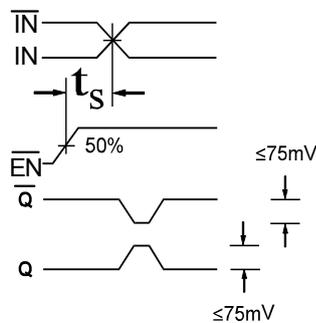

Figure 1. Setup Time
- The setup time is the minimum time that $\overline{\text{EN}}$ must be asserted prior to the next transition of $\text{IN}/\overline{\text{IN}}$ to prevent an output response greater than $\pm 75\text{mV}$ to that $\text{IN}/\overline{\text{IN}}$ transition (see Figure 1).